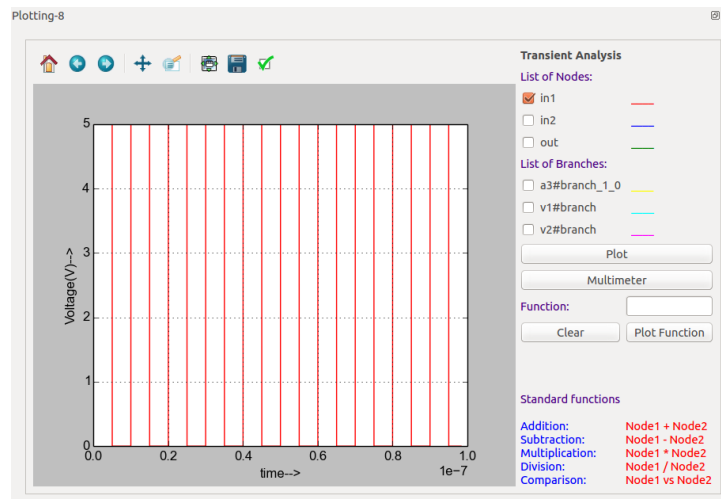
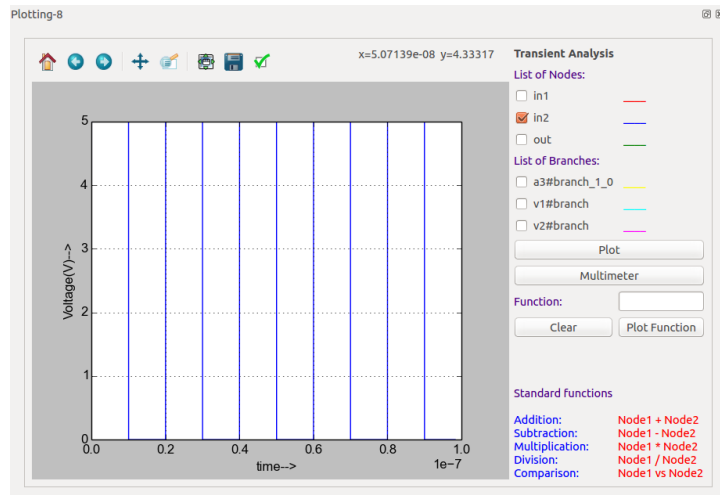
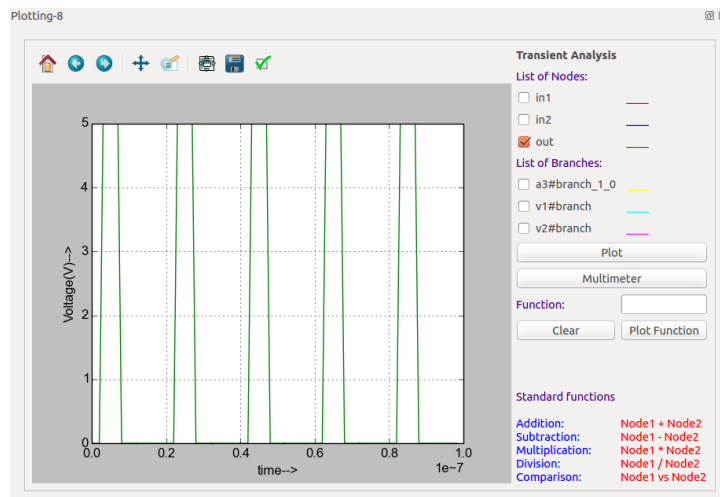

Figure 9.15: Plot of Source V1
Figure 9.16: Plot of source V2
Figure 9.17: Plot of output
- Now select the required nodes and click on *Plot* button. You can see the plots of input source v1, input source v2 and output as shown in Fig. 9.15, Fig. 9.16, and Fig. 9.17 respectively.